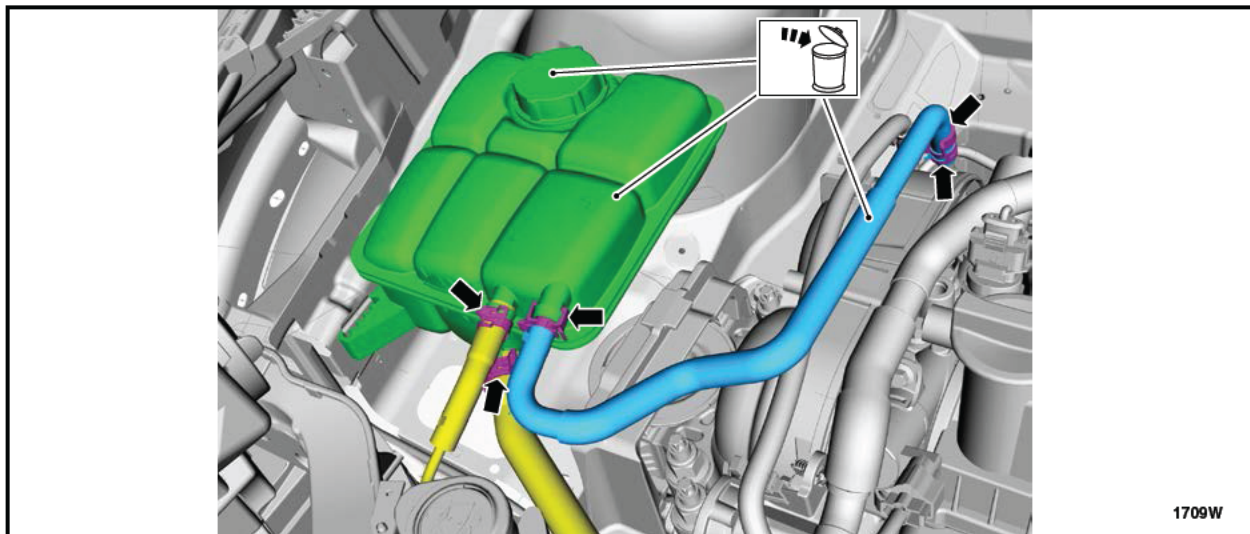

FIGURE I2
1. Remove and discard the turbocharger coolant return hose. See Figure I2.
2. Remove and discard the degas bottle and cap. See Figure I2.